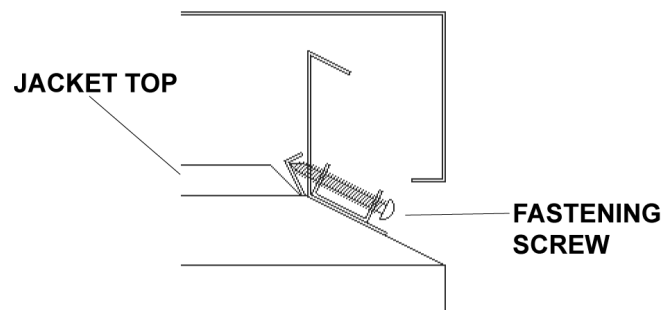

Figure 9. Outdoor Top Installation for Models 0514-0824
2. Tighten the (4) screws until they come in contact with the unit jacket top, then evenly tighten all (4) screws to secure to unit. See Figure 9.